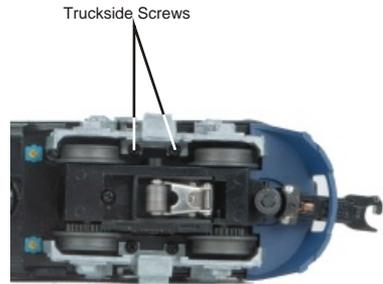

Figure 6: Tire Replacement
1. Remove the truck sides from the truck block in order to slip the new tire over the grooved drive wheel. To do this, remove the screws as shown in Fig. 6.